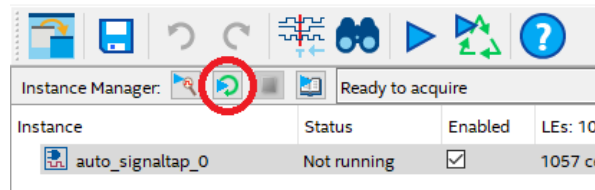

Figure 16: Signal Tap when ready to acquire data from the FPGA
- When the **Instance Manager**, shown in Fig. 16, shows **Ready to acquire**, press the **Autorun Analysis** button, circled in Fig. 16, to begin acquiring data. To make sure that the system was initialized properly, press the reset button (**KEY0**) on the FPGA board to reset the transmitter.